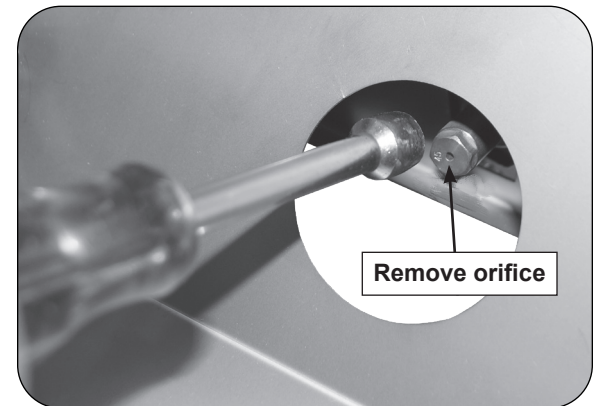

Fig. 37-2 Remove orifice to convert/check
4. Using a 3/8" socket, remove the orifice from the orifice holder (see Fig. 37-2 and Fig. 37-3) and check the number stamped on the face.